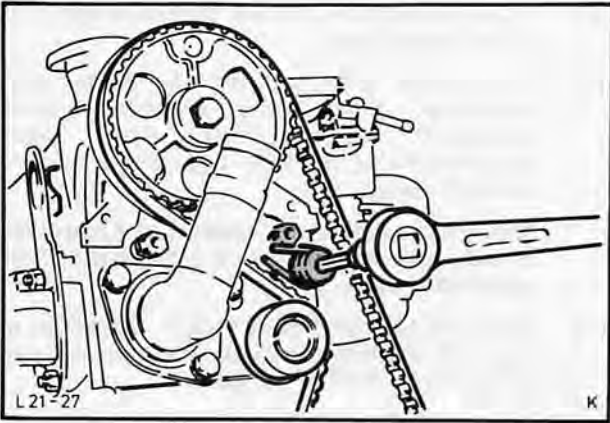

Fig. 115. Tighten belt tensioner
56. Fit toothed belt. Slacken toothed belt tensioner so that it can rest against the toothed belt after twice cranking engine. After cranking tighten toothed belt tensioner to specified torque, hexagon bolt first, then special bolt, Fig. 115.